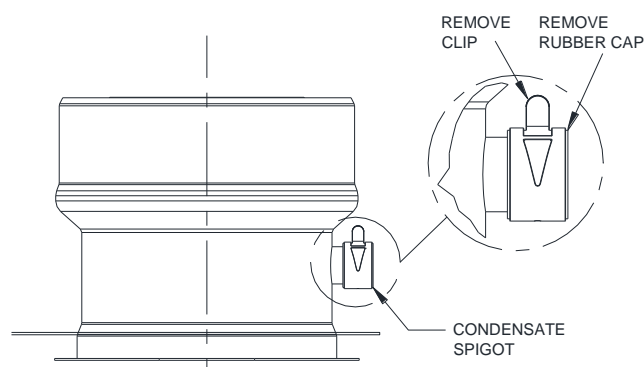

Figure 37 - Condensate Drain Spigot
1. Remove the clamp and rubber cap from the condensate drain spigot on the water heater flue outlet. Discard the clamp and the rubber cap as shown in Figure 37 - Condensate Drain Spigot.